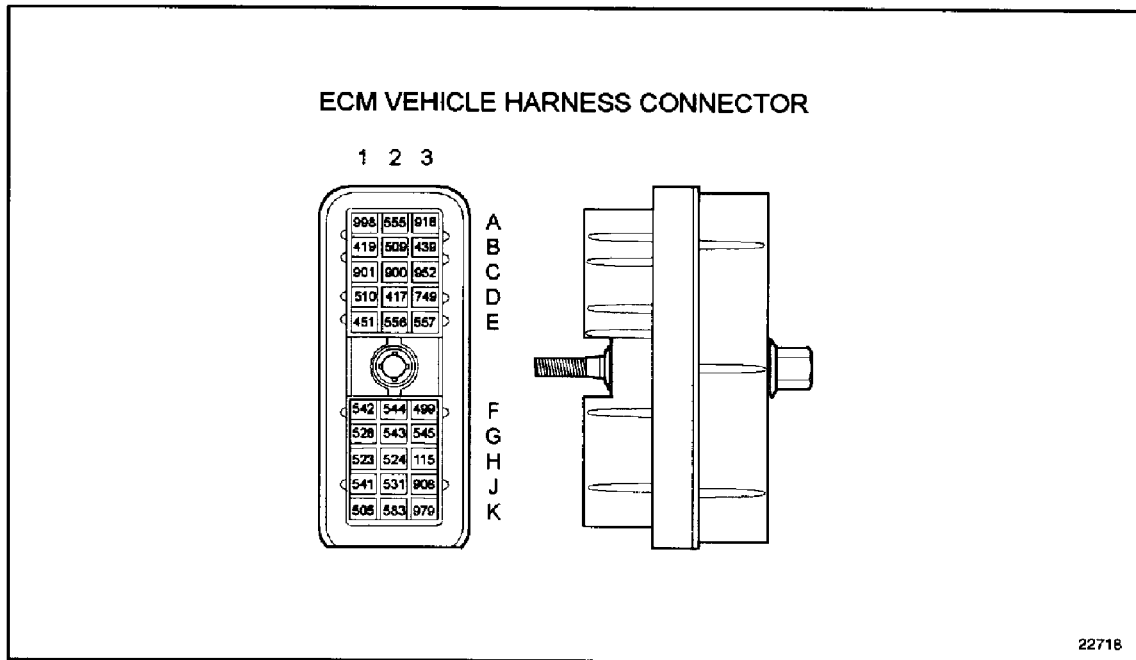

Figure 10-7 ECM Vehicle Harness Connector
1. Check the terminals at the vehicle harness and 5-way power harness connectors (both ECM and harness side) for damage: bent, corroded and unseated pins or sockets. See Figure 10-7.